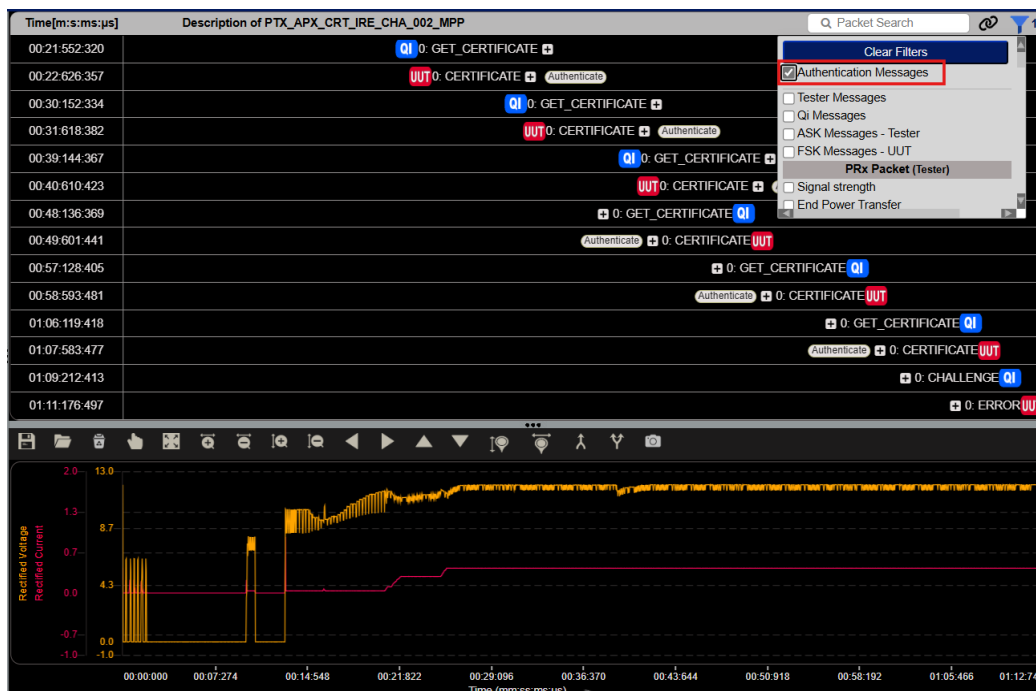

FIGURE 8.122: SELECT AUTHENTICATION MESSAGES CHECKBOX
3. Select the **Authentication Messages** checkbox from the available options as shown in Figure 8.122 below.